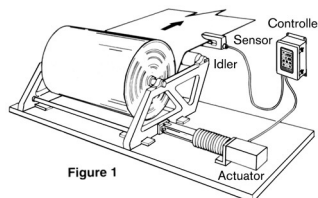

Figure 1
**Web Guiding Applications****Unwind Guiding (See Figure 1)**